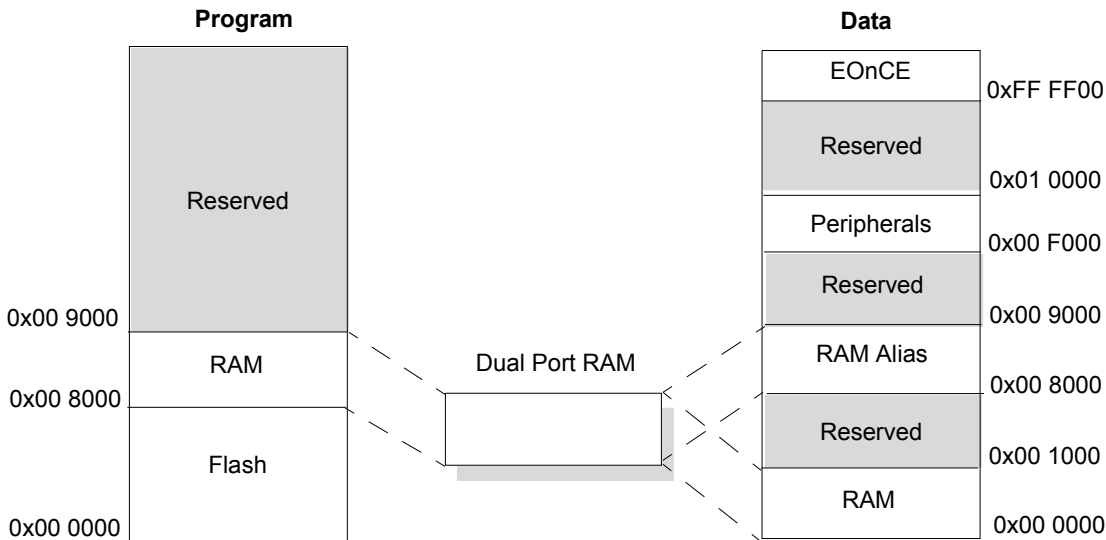
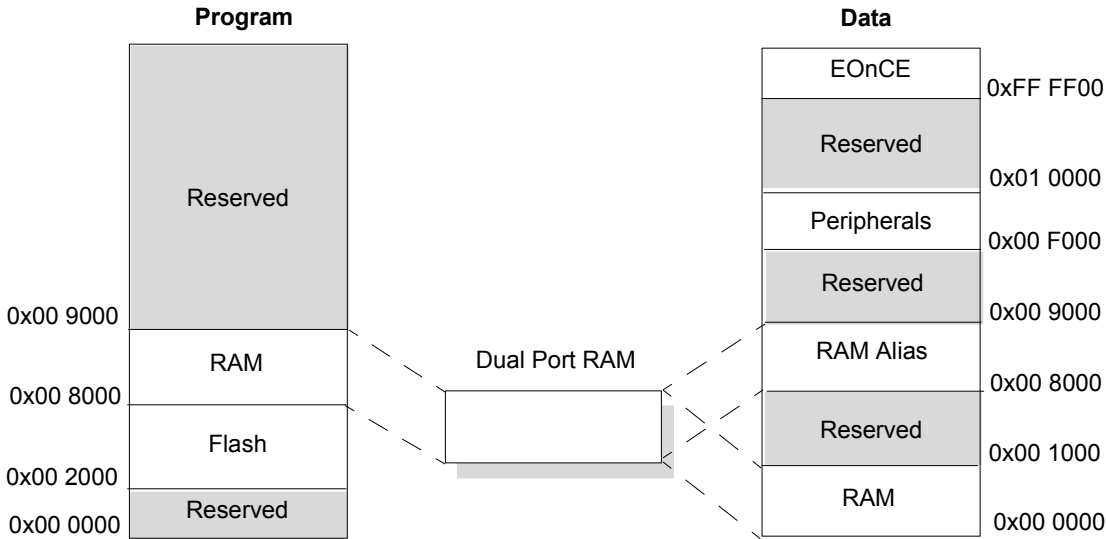

Figure 6. 56F8255/56/57 Dual Port RAM Map
Figure 7. 56F8247 Dual Port RAM Map
² This RAM is shared with data space starting at address X: 0x00 0000. See Figure 6.
- ² This RAM is shared with data space starting at address X: 0x00 0000. See Figure 7.
² This RAM is shared with program space starting at P: 0x00 8000. See Figure 6 and Figure 7.